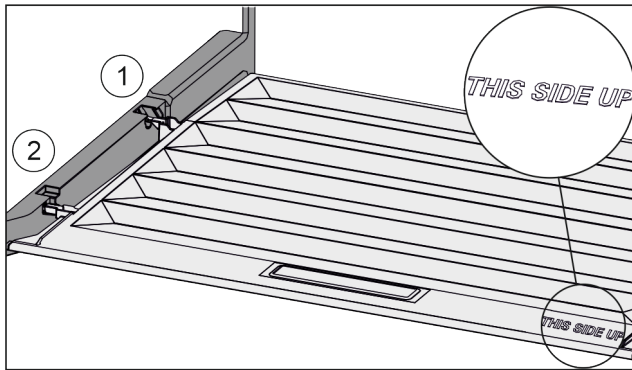

Fig. 135
- ▶ Insert the lip of the cover over the opening of the rear bracket Fig. 135 (1) and click into place Fig. 135 (2).